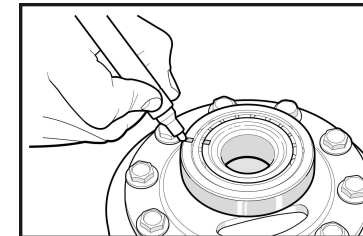
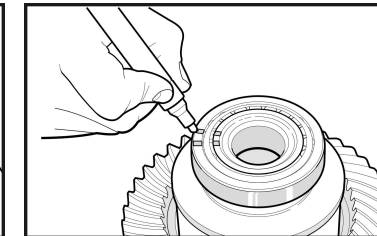

Fig. 8
Fig. 9
- 1.12 Mark the inner and outer bearing races as shown in the illustration. (Fig. 8, Fig.9)